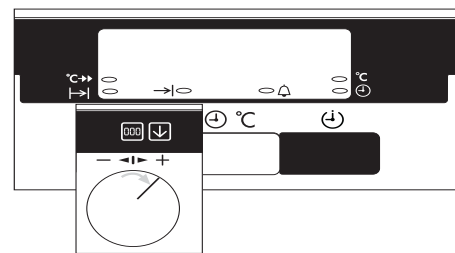

Fig.14
2. In addition press the Time Selector button () until the display goes out as Fig. 14.